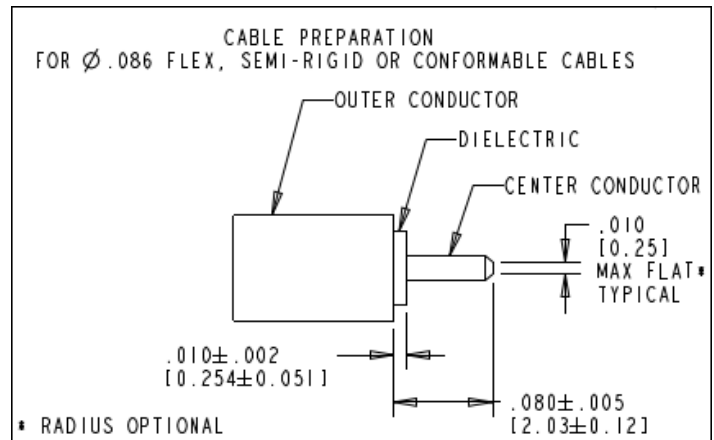

Figure 2: Coaxial Cable Stripping Dimensions
- Strip the cable to the dimensions shown in Figure 2.
- Shape the blunt end of the center conductor to a cone between 70° and 90°. See Figure 2.
1. Prepare cable as shown in figure 2.